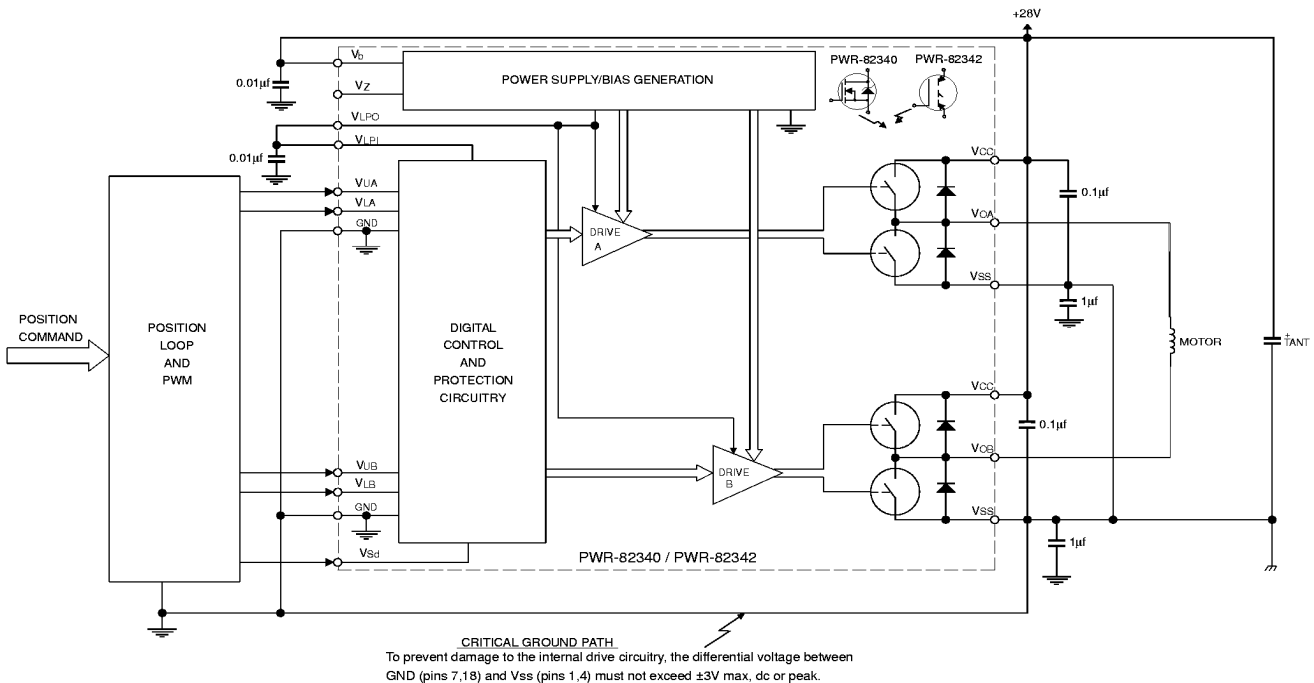

FIGURE 8. PWR-82340/342 TYPICAL INTERFACE WITH A MOTOR AND PWM
**external to the hybrid.** Pin 12 is the logic power input ( $V_{LPI}$ ) for the digital circuitry inside the hybrid. **A 0.01  $\mu\text{F}$ , 50 V ceramic capacitor must be placed between this pin (12) and GND as close to the hybrid as possible.** When using 15 V control circuitry, the logic power input (pin 12) can be connected directly to the logic power output (pin 11) of the hybrid. There is no need for an additional external power supply. **When using 5 V control logic, an external +5 VDC supply must be connected between pin 12 of the hybrid, and GND — leave Pin 11 open (N/C).** The control circuitry can be as simple as a PWM, or as sophisticated as a microprocessor or custom ASIC, depending on the system requirements. The Block Diagram in FIGURE 8 shows a typical interface of the PWR-82340 and PWR-82342 with a motor and control logic in a Servo-Amp System.